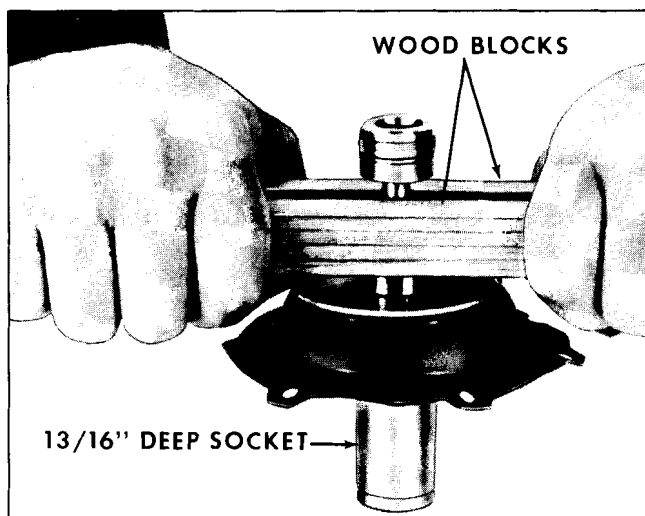

Fig. 4-47 Installing Diaphragm Retainer
2. Using a 13/16" deep socket as a retainer installer, press against the piston shoulder on the first stage housing side with wood blocks to seat retainer. The wood blocks used in the illustration are each 3/4" x 3/4" x 12" (Fig. 4-47).